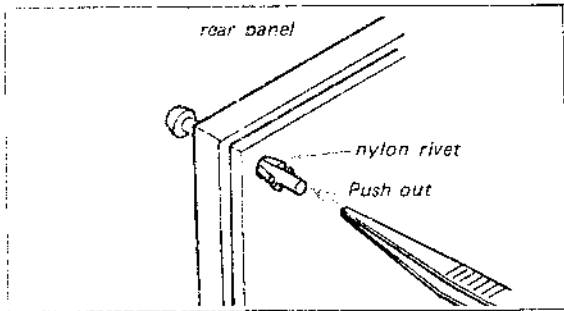

Fig. 2-14. Nylon rivet removal
1. Remove the nylon rivets securing the defective component by pushing its end with a tweezers as shown in Fig 2-14.